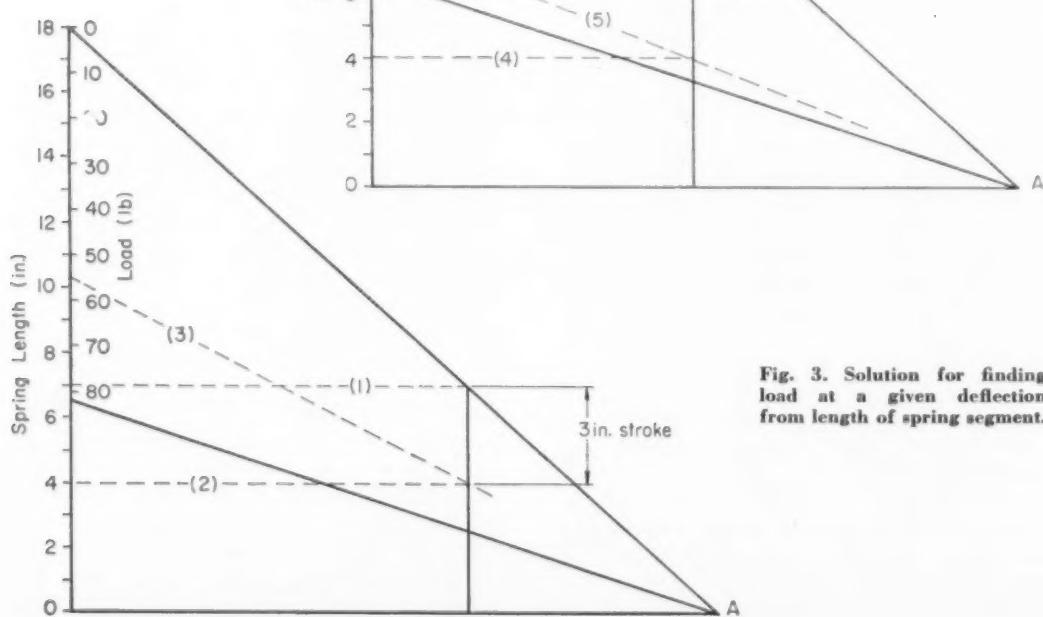

Fig. 3. Solution for finding load at a given deflection from length of spring segment.
This solution is shown in *Fig. 3*. The cutoff length of 7 inches is projected (1) from the length scale to the hypotenuse of the triangle. This determines the position of the line representing the spring segment. Move down this segment line 3 inches as shown on the length scale (2). The answer of 55 lb on the load scale is shown by line (3).